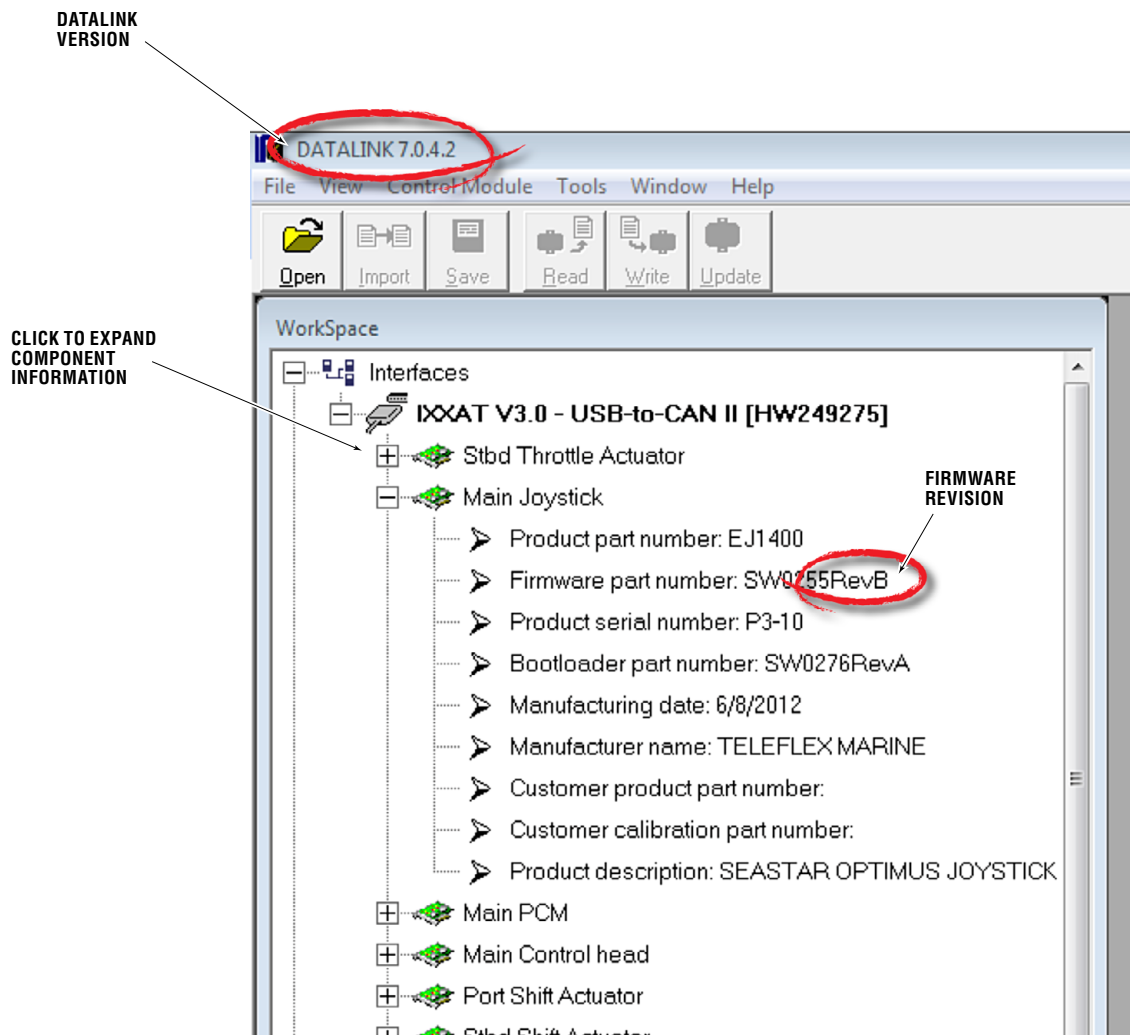

Figure D-2. Datalink workspace.
2. In the 'Interfaces' section in Datalink, click on the  box to expand the component information. See figure D-2. (In an i6800 system you will see only the Control Head(s) and Actuators in the component list.)